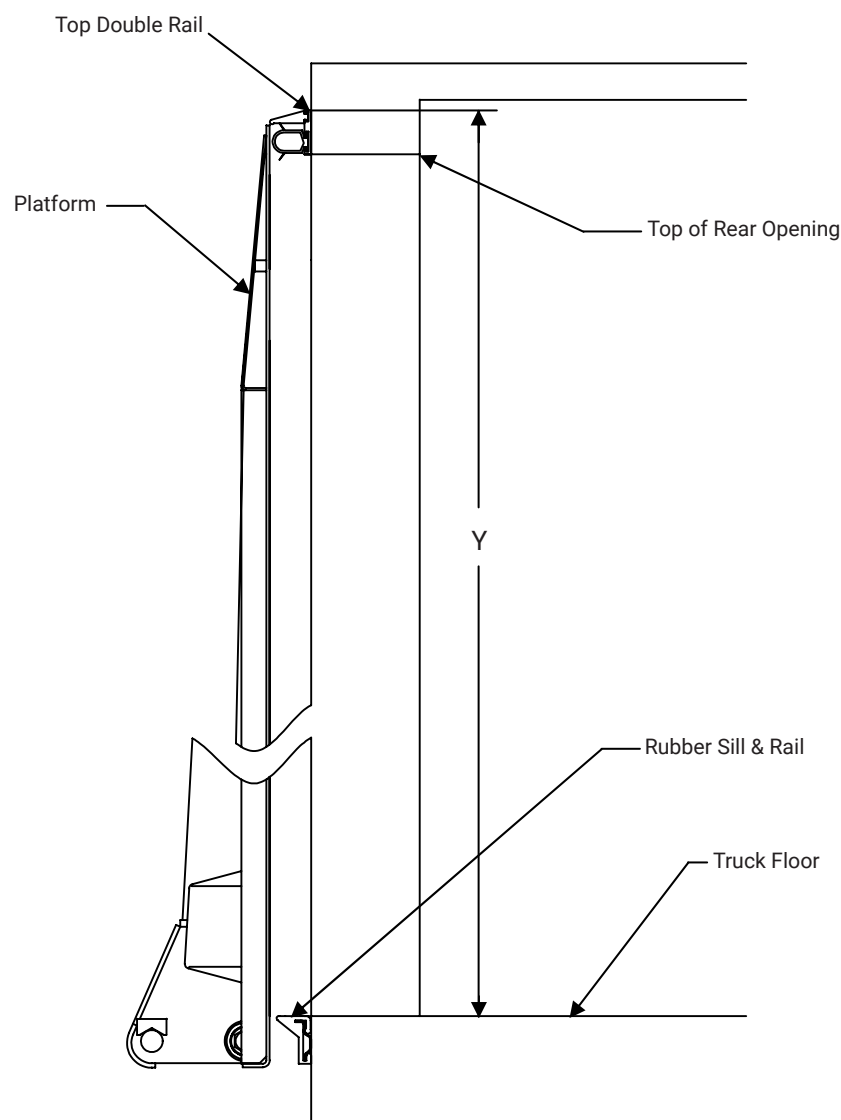

Figure 39. Installation of full-door seal kit
1. With the Platform in the stored position, find the location of the Top Double Rail according to Figure 39. Measure the distance from the vehicle floor to the top of the Top Double Rail and record the measurement as the 'Y' Dimension. Cut the Side Double Rails, Side Rubber Seals, and Side Air Foils to match the 'Y' Dimension.